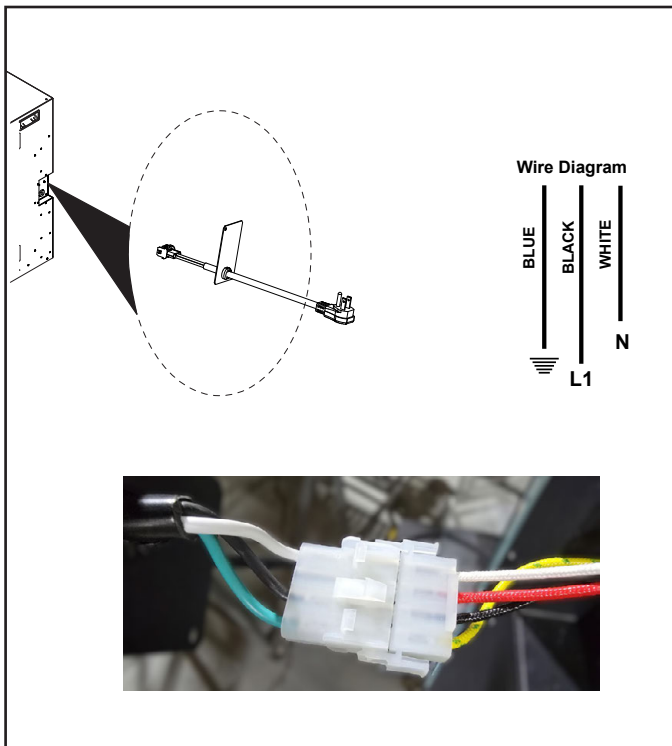

Figure 3 Power Cord Installation
3. Connect the three conductor wire connectors to the connector on the block supplied with the power cord kit. See Figure 3.